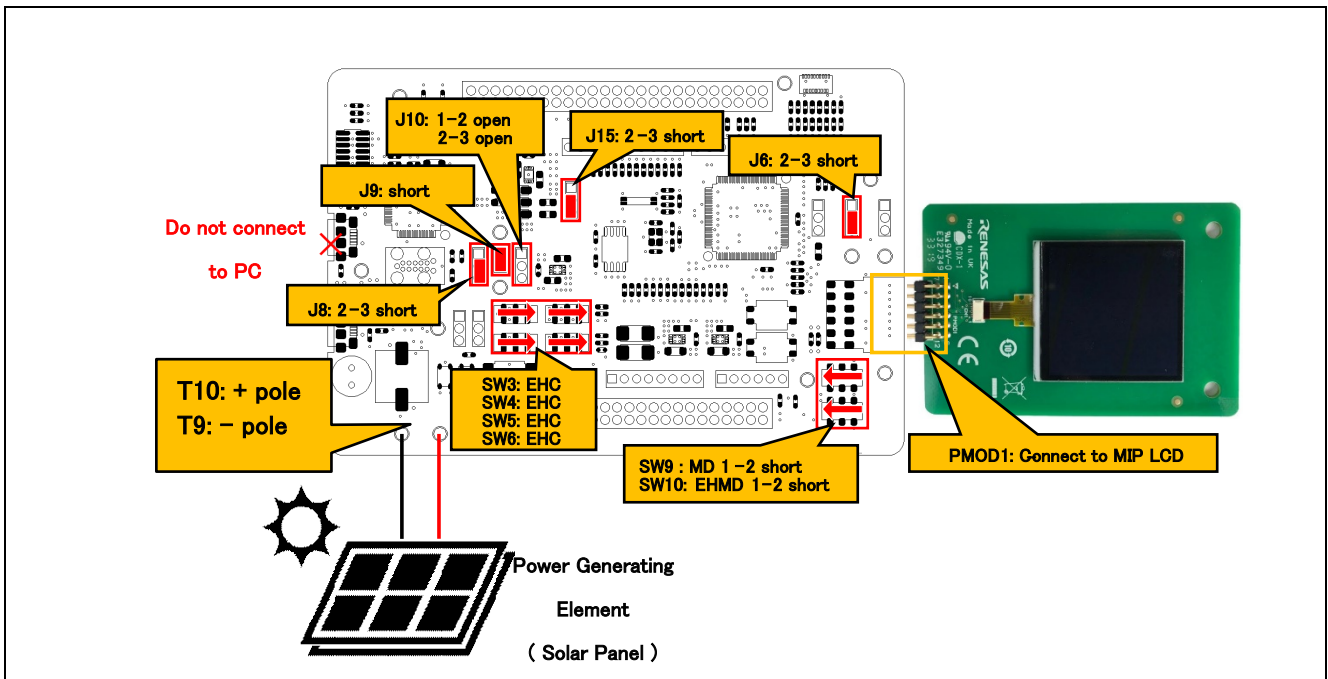

Figure 2.5 Board setting during energy harvesting operation (using solar panel)
Evaluation Kit RE01 256KB Board and a solar panel are required. Connect the required components by following the setting shown in Figure 2.5.
- Fig. 2.5 shows the board setting during energy harvesting operation (using solar panel)